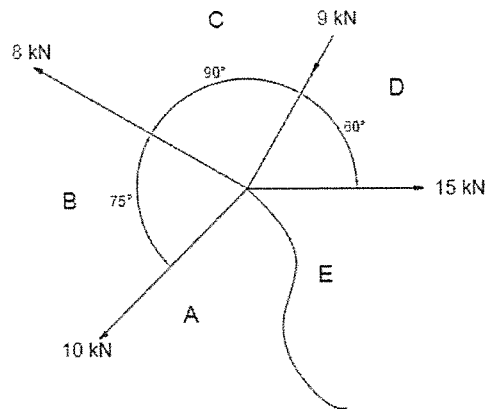

FIGURE 1
- 1.2 Graphically find the magnitude and direction of the resultant force of the system of coplanar concurrent forces shown in FIGURE 1 on the attached DIAGRAM SHEET 1. (10) [14]